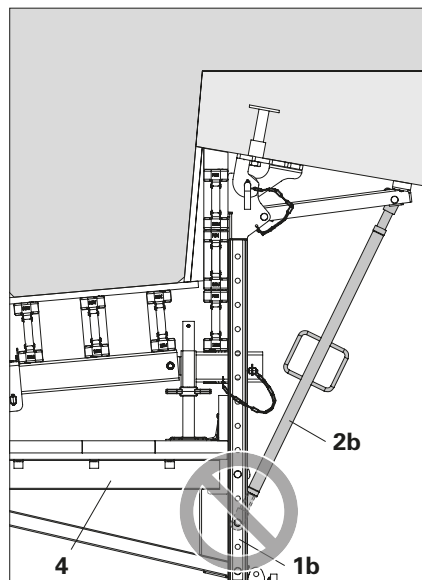

Fig. A4.02a
- Never attach Kicker Brace AV 111 (**2b**) between the fixing points of Platform Cantil. Beam VGK 170 (**4**). (Fig. A4.02a)